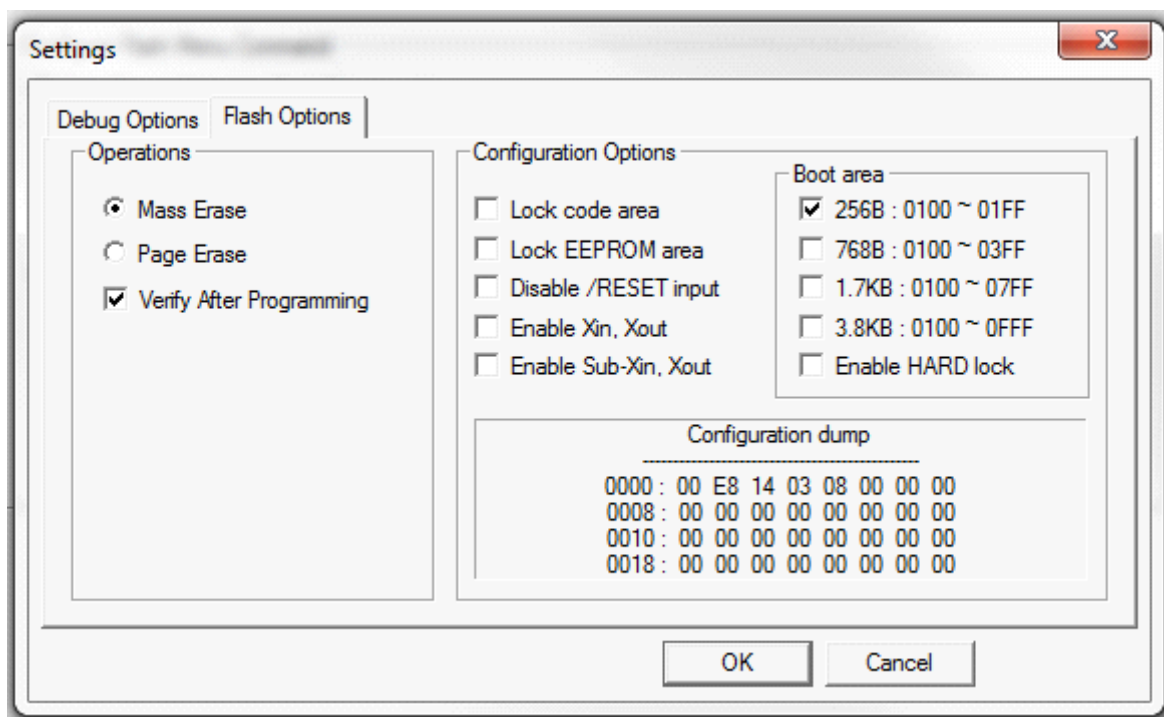

Figure 38. Configuring Additional Flash Options
2. Click the **Settings** button to change any additional Flash options. The Settings dialog will appear, as shown in Figure 38.